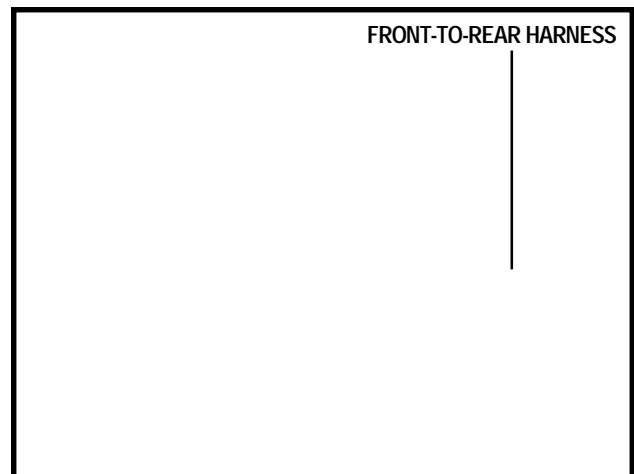

Figure 22. Frame Lockup
WARNING! Position the front-to-rear harness so it will not become pinched between the frame halves when pivoting the rear section forward. See figure 22.
3. Holding the seat post, slowly pivot the rear section forward until the curved locking brackets are fully connected onto the top rear pegs. See figure 22.